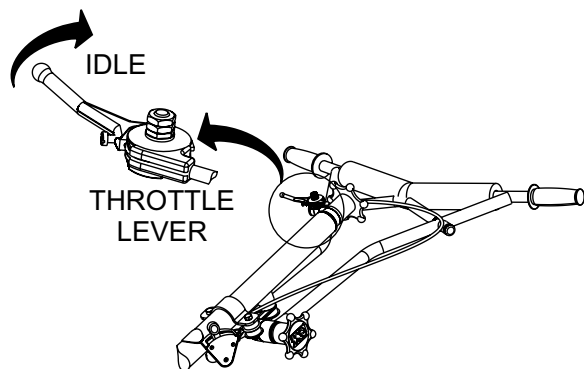

Figure 21. Throttle (Idle Position)
2. Pull the **throttle lever** (Figure 21) slightly backwards and place in the "IDLE" position.